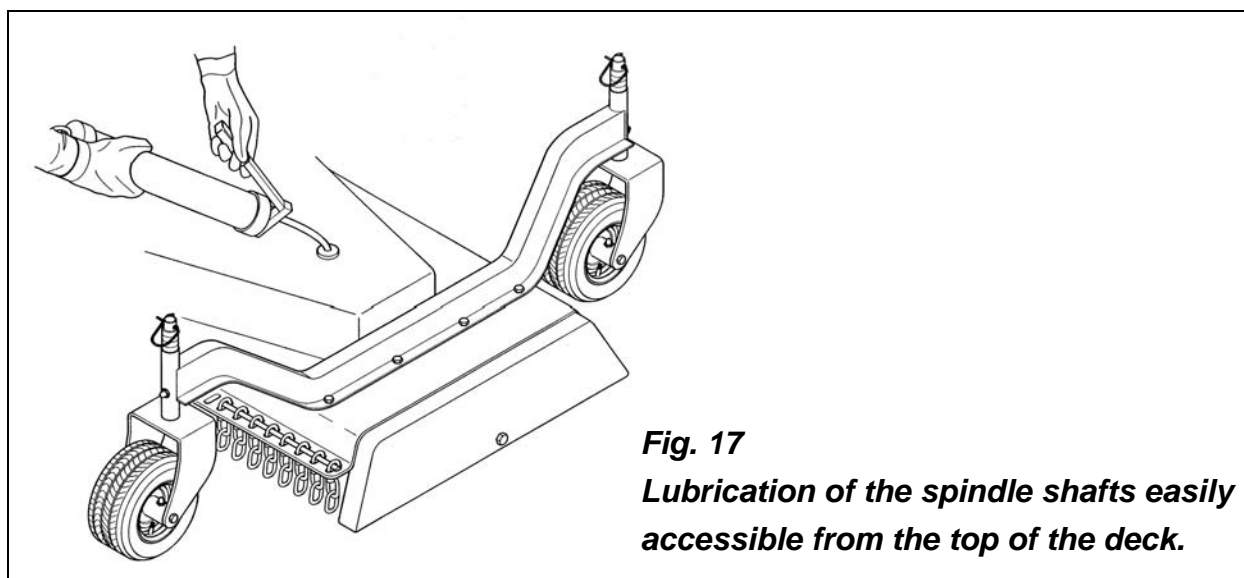

Fig. 17
1. Lubricate the nine spindles with two or three shots of multipurpose grease (**see fig. 17**). The top grease fittings are easily accessible from the top of the deck by simply removing the plastic dust guards.